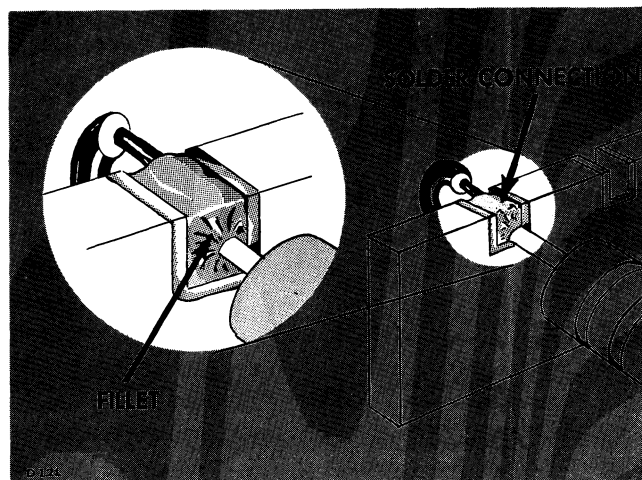
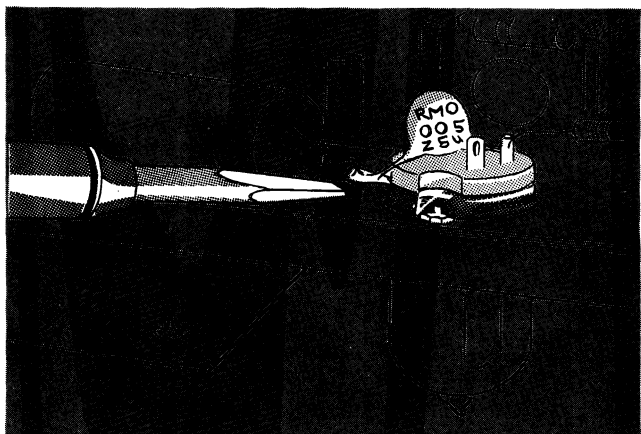

Fig. 4-3. A slight fillet of solder is formed around the wire when heat is applied correctly.
Fig. 4-4. Soldering to a terminal. Note the slight fillet of solder--exaggerated for clarity--formed around the wire.
6. Do not attempt to fill the notch on the strip with solder; instead, apply only enough solder to cover the wires adequately, and to form a slight fillet on the wire as shown in Fig. 4-3.
technique should be employed. Prepare the iron as outlined above, but tin with ordinary tin-lead solder. Apply the iron to the part to be soldered as shown in Fig. 4-4. Use only enough heat to allow the solder to flow freely along the wire so that a slight fillet will be formed as shown in Fig. 4-3.